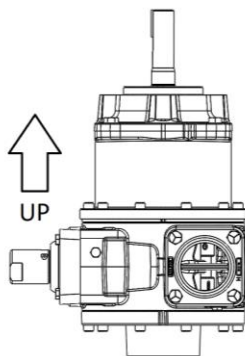

Figure 5 – Disassembly Orientation
3. Remove the four bearing cover capscrews (28), the bearing cover (27), and the bearing cover o-ring (26). Discard o-ring.
4. Set the pump on the outboard head, with the shaft facing up. See Figure 5. Provide adequate support to eliminate the possibility of tipping during disassembly/assembly.